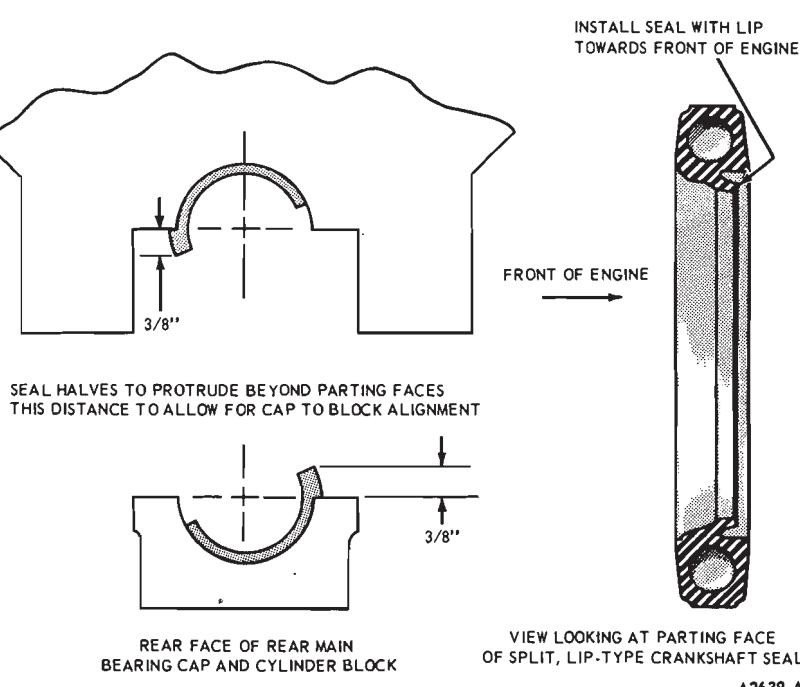

FIG. 44—Installing Crankshaft Rear Oil Seal
Carefully install the upper seal (split lip type) into its groove with the undercut side of the seal toward the FRONT of the engine (Fig. 44) by rotating it on the seal journal of the crankshaft until approximately  $3/8$  inch protrudes below the parting sur-
8. Install the lower seal in the rear main bearing cap with undercut side of seal toward the FRONT of the engine (Fig. 44), allow the seal to protrude approximately 3/8 inch above the parting surface to mate with the upper seal when the cap is installed.